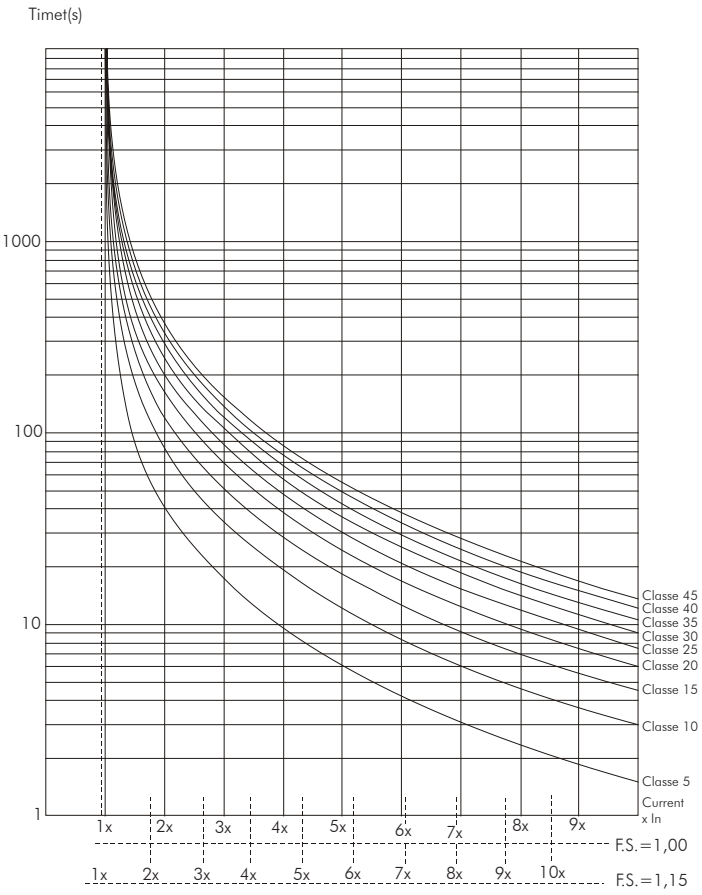

Figure 5.26 - Tripping classes for cold motor protection
The figure 5.26 presents all the tripping class curves considering service factors (S.F.) of 1.00 and 1.15.
Use the data found in the previous example ($6 \times I_n$) and the 6 s time (figure 5.26) in order to find the minimum tripping class necessary to start the cold motor, as described at the parameter 640.
1) At the figure 5.26 we verify the minimum tripping class that will make the starting possible. For $4 \times I_n @ 25 \text{ s}$ we adopt the closest curve above the found point: Class 15.